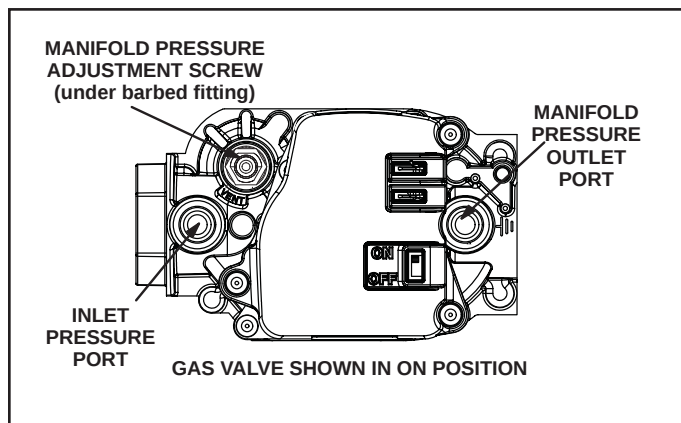

Figure 49. Gas Valve
Gas Valve Operation (Figure 49)
6. Move gas valve switch to OFF. See Figure 49.
8. Move gas valve switch to ON. See Figure 49.
When testing supply gas pressure, use the 1/8" N.P.T. plugged tap or pressure post located on the gas valve to facilitate test gauge connection. See Figure 49. Check gas line pressure with unit firing at maximum rate. Low pressure may result in erratic operation or underfire. High pressure can result in permanent damage to gas valve or overfire.